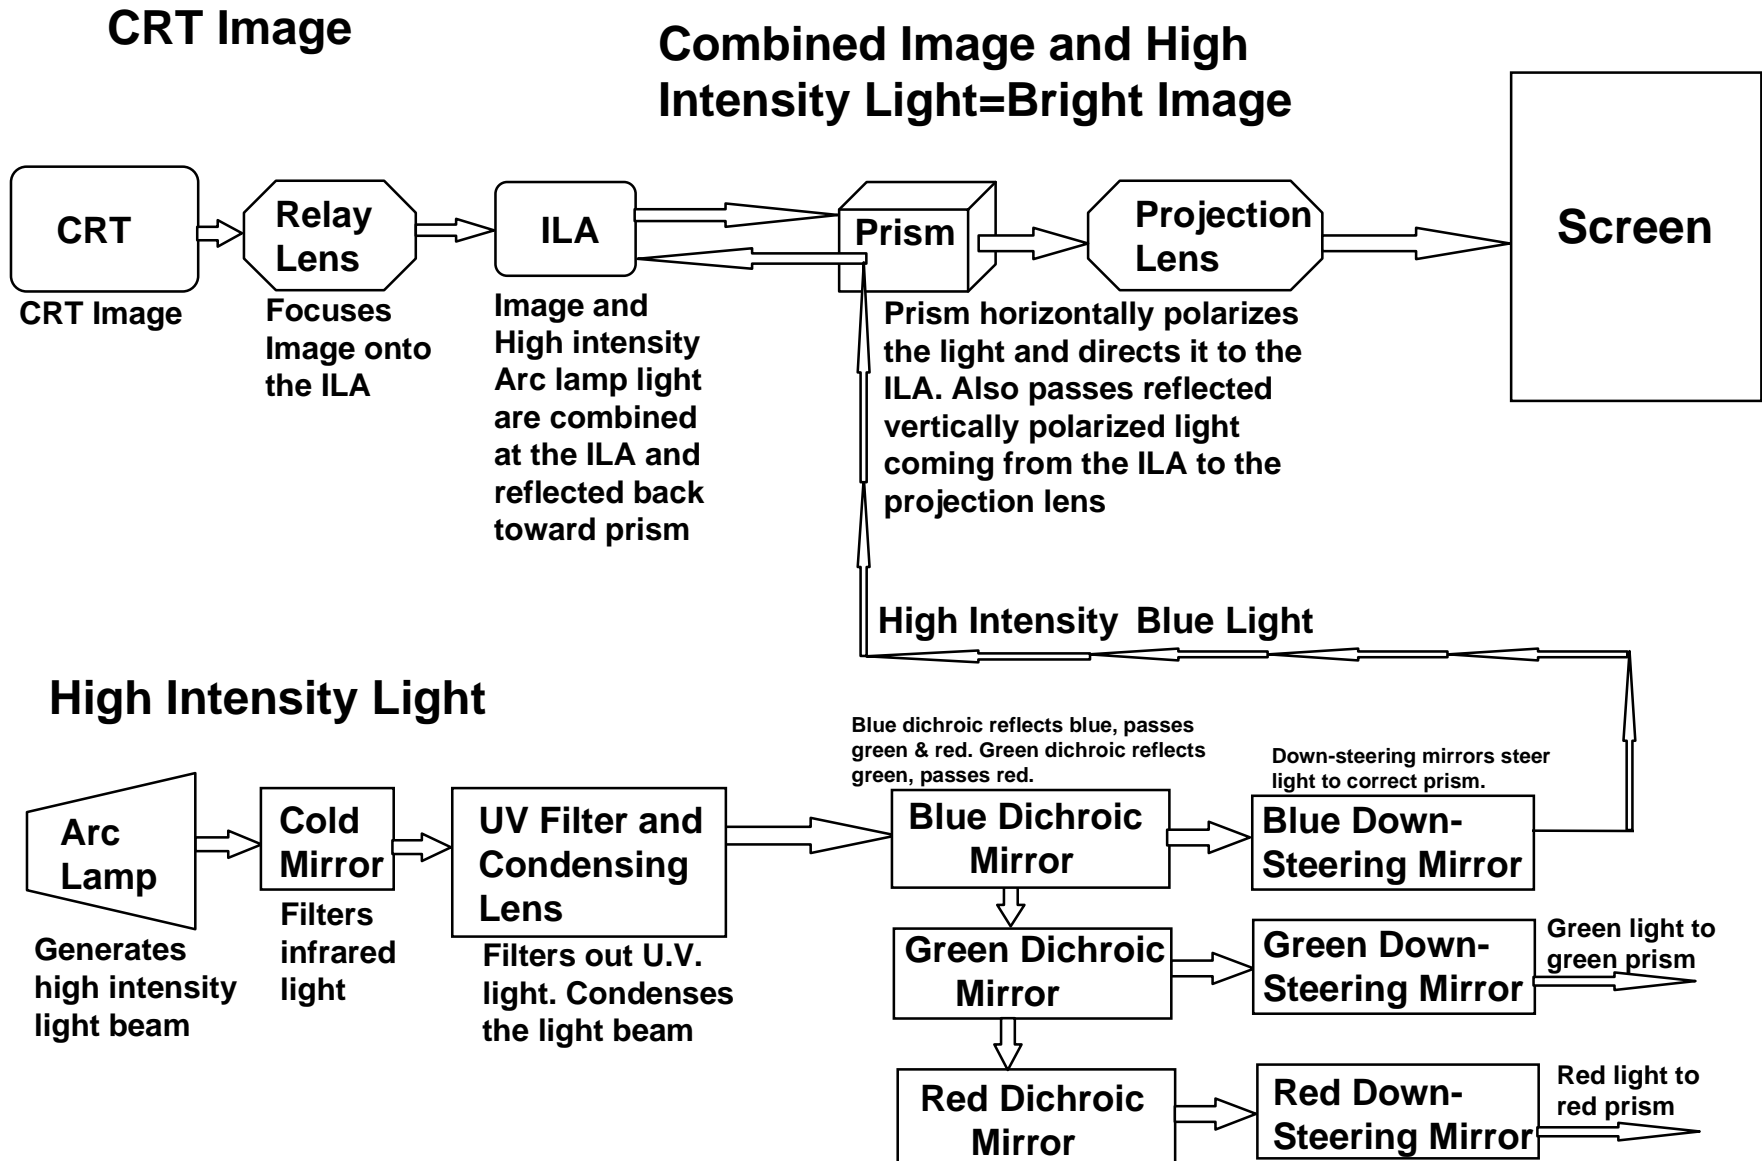

Figure 2-19 Optical Block Diagram
The Optical section consists of the CRT Assembly, the Arc Lamp Assembly, and the Optical subassemblies, which provides the image to be viewed on the screen. The Optical Section filters, splits and directs the high intensity light to the three (3) separate (RGB) light channels. Figure 2-19 shows the video path from the CRT to the screen and the optical path from the Arc Lamp to the screen.